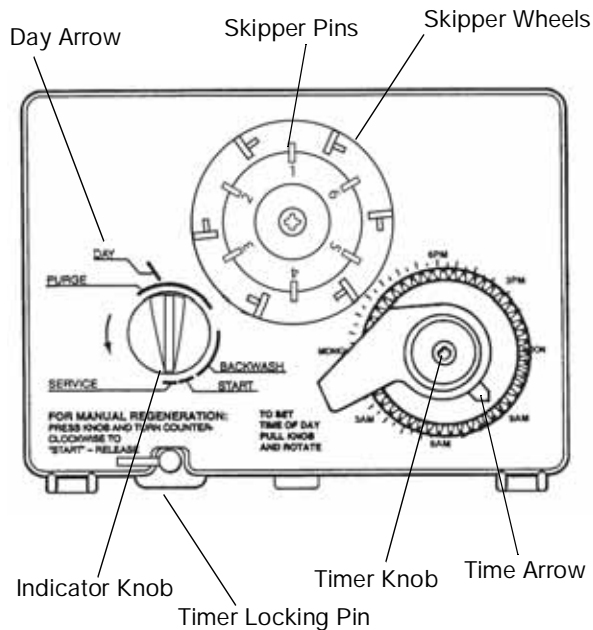
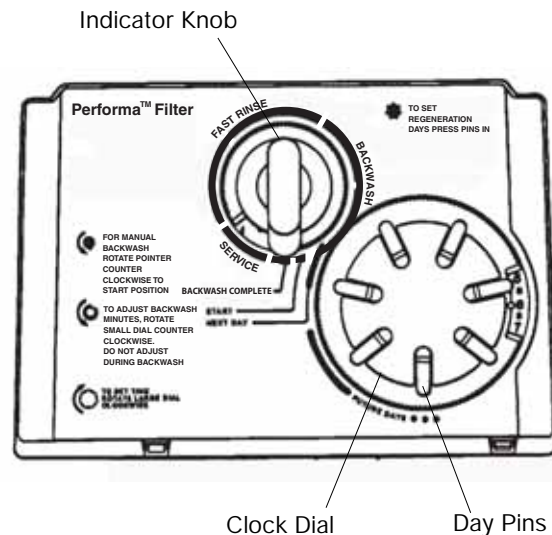
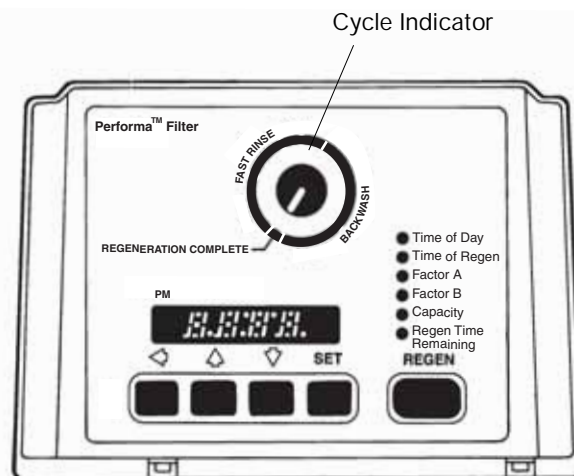

Figure 4
Figure 5
Figure 7
Note: The following steps will require turning the indicator knob (Figure 4 and Figure 5) or the cycle indicator (Figure 7) to various positions. Manually rotate the camshaft **COUNTERCLOCKWISE** only until indicator knob and cycle indicator points to desired position. (See manual regeneration sections for each control's manual operation.)
1. Set days of regeneration on skipper wheel (Figure 4).
Note: The timer locking pin should always be horizontal (Figure 4) during operation.
extra regeneration can be achieved. Depress the indicator knob on the 440i (Figure 4) with a wide-blade screwdriver and turn **COUNTERCLOCKWISE** to **START** to initiate a regeneration. It will take a few minutes for regeneration to start. A normal regeneration will take approximately two hours.
Electricity is used only to run the control and to rotate the camshaft. All other functions are operated by water pressure. Therefore, in the event of a power outage, all the regeneration positions may be dialed manually by depressing the indicator knob and turning **COUNTERCLOCKWISE** (Figure 4). The following cycle times should be used for proper regeneration:
1. Set days of regeneration (Figure 5).